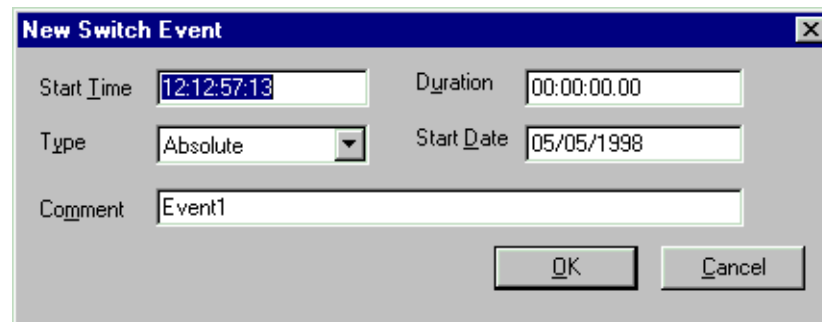

Figure 129. New Switch Event dialog box
2. Choose **Edit | New Event | Switch** and the New Switch Event dialog box appears, as shown in Figure 129.